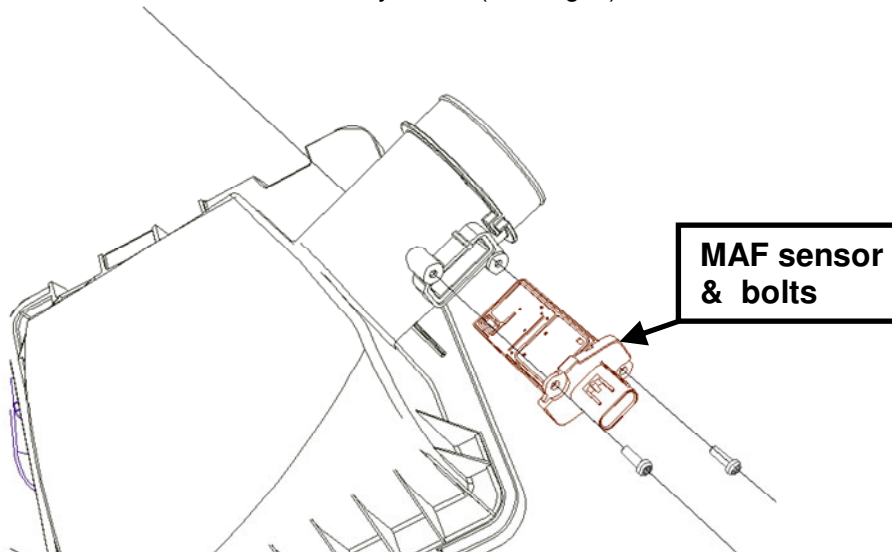

Fig. 3
**STEP 6:** Remove MAF bolts and MAF from the factory airbox (See Fig. 3).